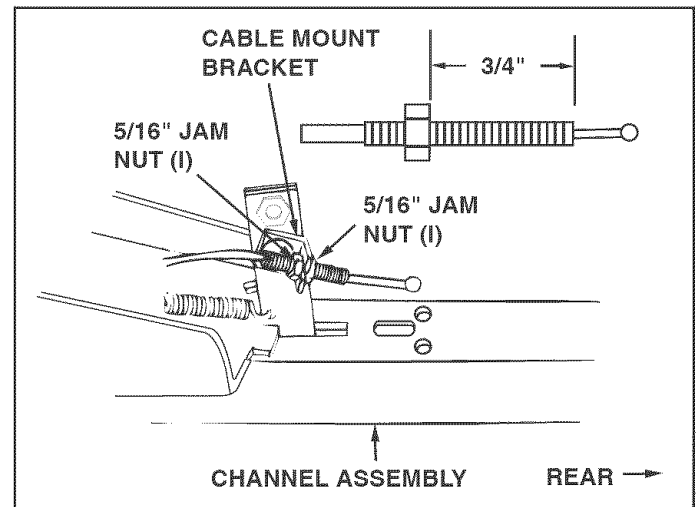

FIGURE 15 (Left Hand Side View)
STEP 15: (SEE FIGURE 15)
- Assemble one 5/16" jam nut (I) approximately 3/4" onto threaded end of control cable that has no rubber cap or preassembled nuts. Assemble threaded cable end through round hole in cable mount bracket and secure with another 5/16" jam nut (I). **Tighten**.